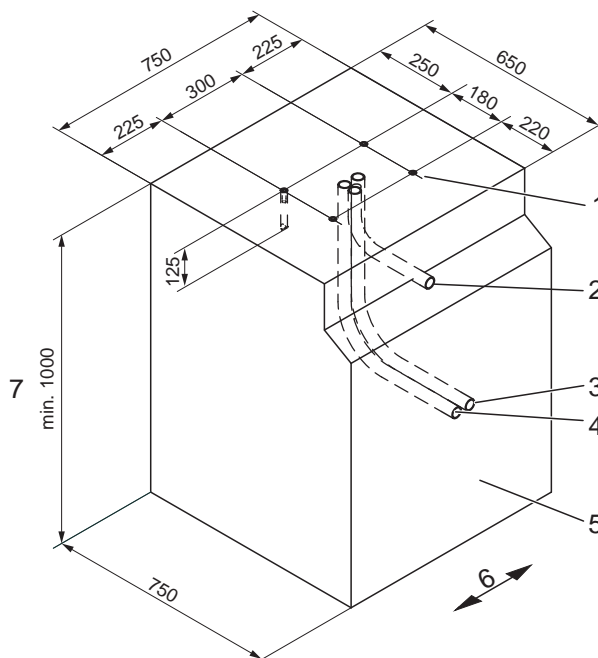

Fig. 14: Foundation plan Access XXL (dimensions in mm)
→ See page 44, Fig. 11 and page 48, Fig. 14.
→ See page 48, Fig. 14
1. Dig foundation hole pursuant to Fig. 11 and Fig. 14.
3. Place empty conduits pursuant to Fig. 14 in the foundation hole.
5. Fill concrete foundation pursuant to Fig. 14.